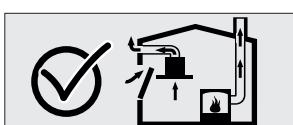

Fig. 4
- Therefore, adequate fresh air ingress must always be ensured. (Fig. 4)